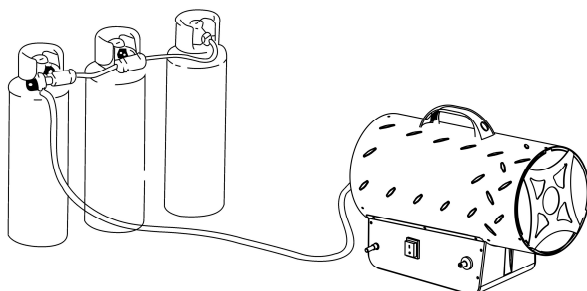

Fig.1
- If the heater has to work for a long period at its maximum capacity, it's possible that ice will form on the cylinder. This is due to excessive vapour withdrawal. Not for this reason, or for any other, should the cylinder be heated. To avoid this effect, or at least to reduce it, use a large cylinder or two cylinders linked together (Figure1).